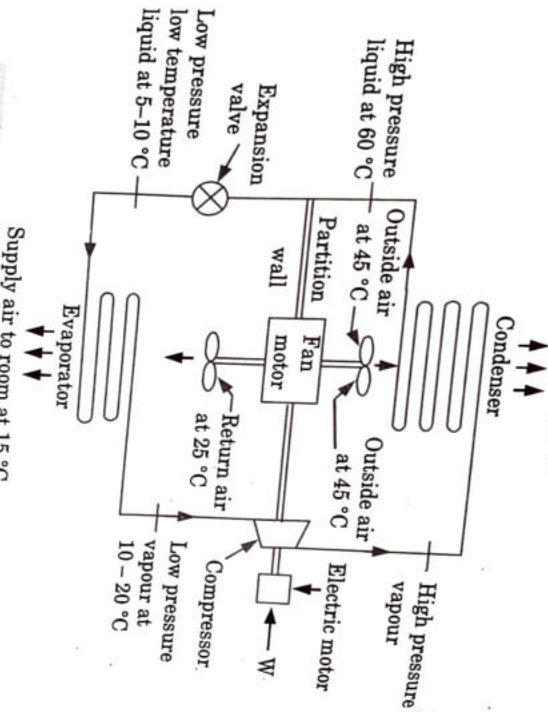

Fig. 2.28.1. Schematic diagram of a window air conditioner.
1. Fig. 2.28.1 shows the schematic diagram of a typical window air conditioner.